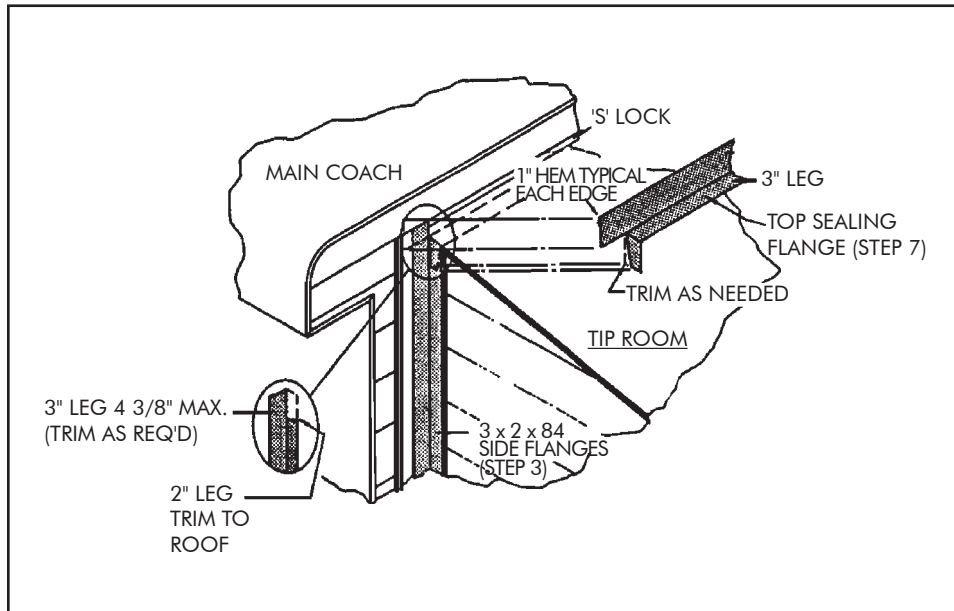

FIGURE 20 OPTIONAL TOP & SIDE SEALING FLANGES
- Place the 3" x 2" x 84" aluminum side flange into place with the bottom edge lined up with the bottom of the tip-out room floor. Trim away portion of corner that extends above tip-out roof line (See Figure 20).